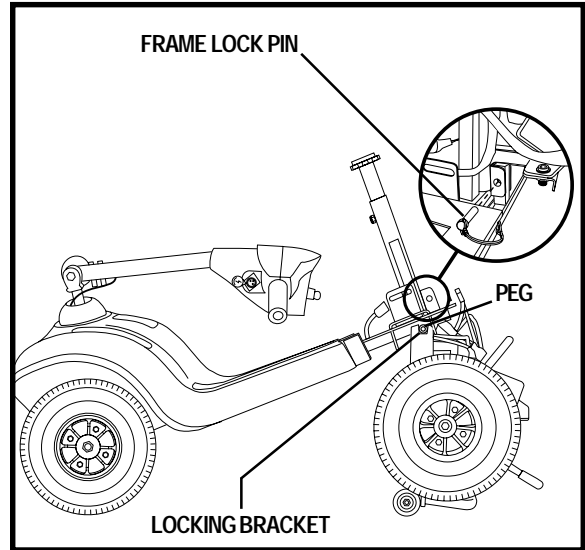

Figure 14. Frame Separation
10. Remove the frame lock pin. See **figure 14**.
13. Lift the front section up until the pegs on the front section are no longer in the locking brackets of the rear section. See **figure 14**.